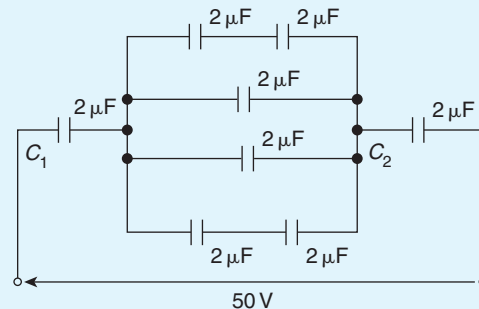

Figure 6.13
12. For the circuit shown in Fig. 6.13, determine (a) the total circuit capacitance, (b) the total energy in the circuit, and (c) the charges in the capacitors shown as C_1 and C_2 [(a) $0.857 \mu\text{F}$ (b) 1.071 mJ (c) $42.85 \mu\text{C}$ on each]